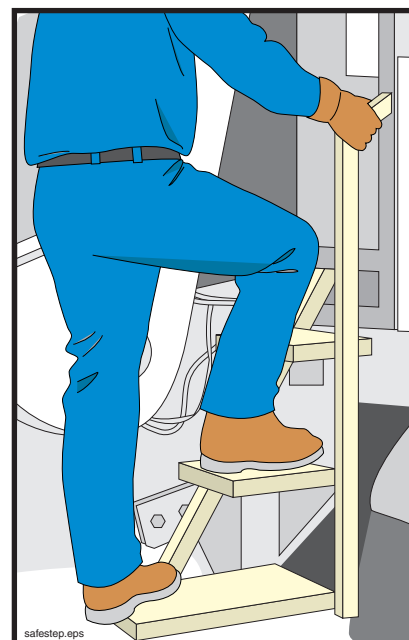

Figure 5
- 3.12** **⚠ WARNING** (See Figure 5.) Mount or dismount the pump or truck using the *3 Point Rule* (i.e. keep two hands and one foot or one hand and two feet in contact with a secure surface at ALL times).